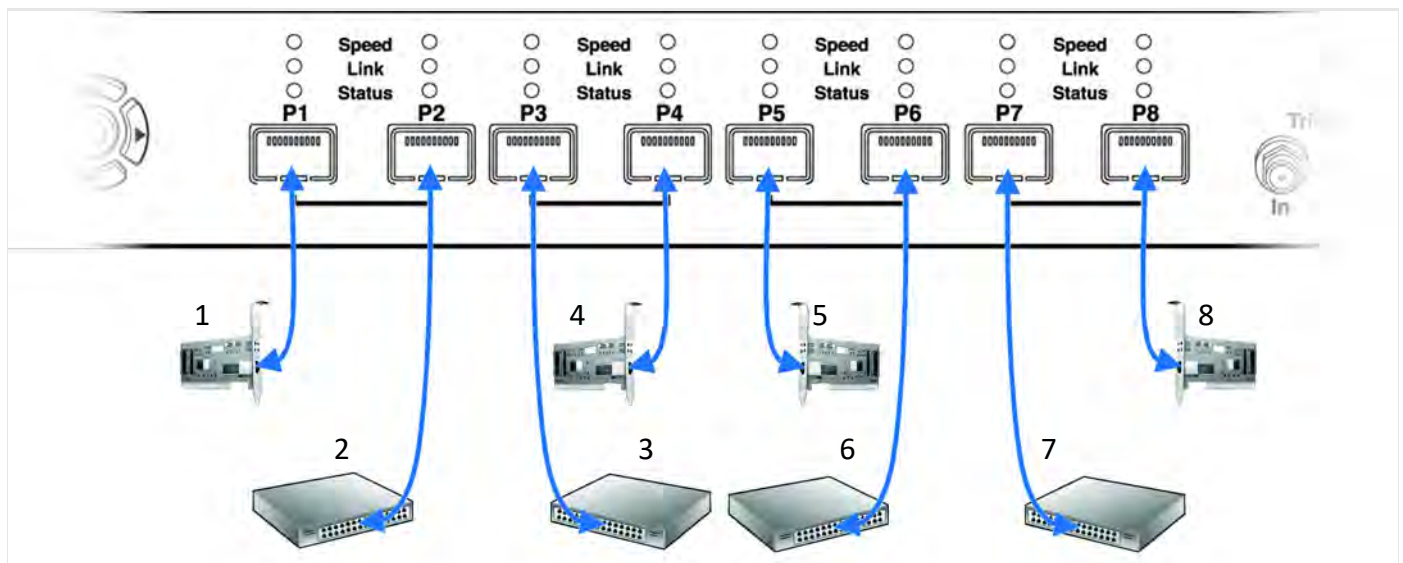

Figure 2.23: M328 Analyzer with SFP+ Connections
4. Connect your devices under test to port pairs P1/P2, P3/P4, P5/P6 and/or P7/P8. See Figure 2.23.